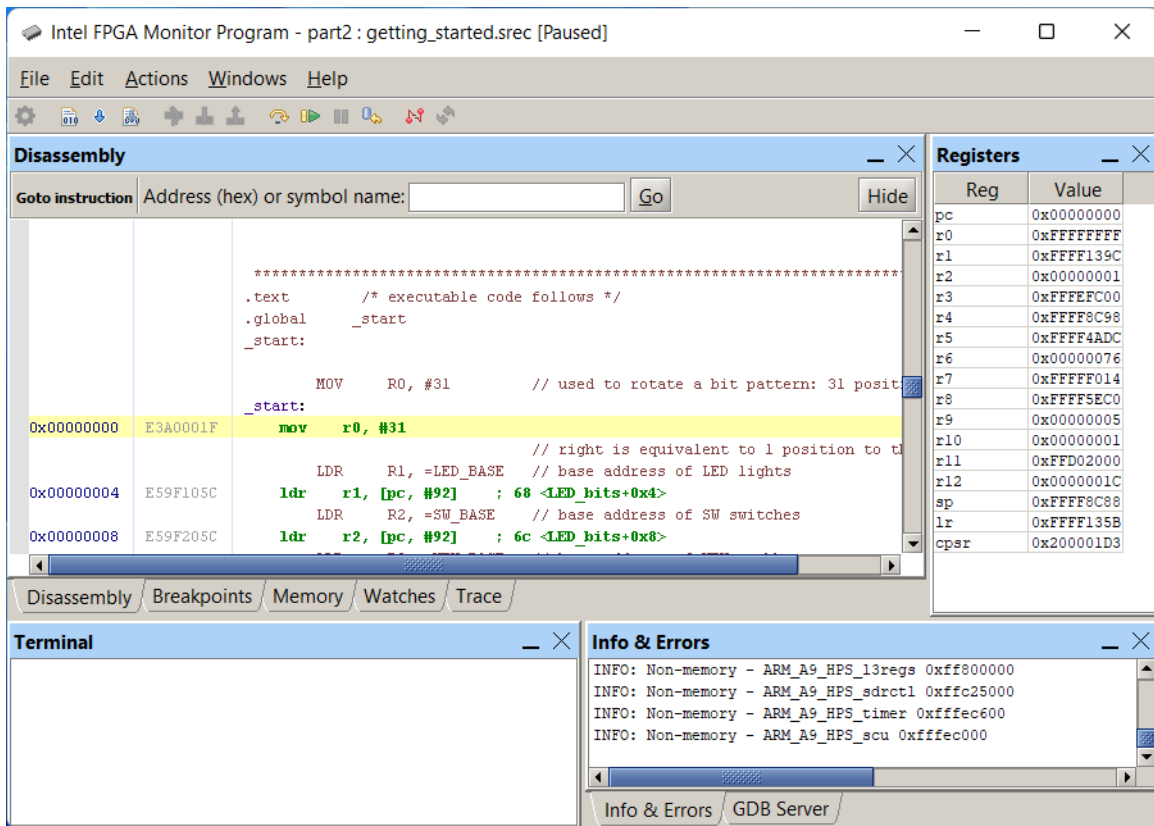

Figure 8: The monitor window showing the loaded sample program.
9. Having downloaded the computer system into the FPGA SoC chip on your DE1-SoC board, we can now load and run the sample program. In the main Monitor Program window, shown in Figure 8, select **Actions > Compile & Load** to assemble the program and load it into the memory on the board. Figure 8 shows the Monitor Program window after the sample program has been loaded.